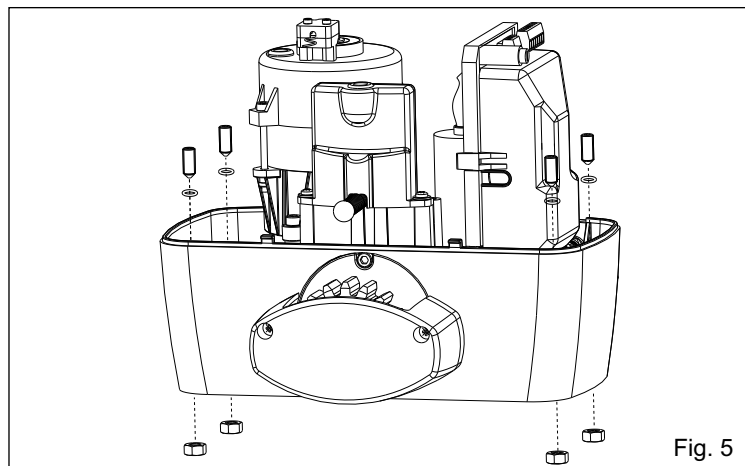

Fig. 5
4.1. Insert the 4 grub screws into the special holes for the adjustment of the motor height on the plate (Fig. 5).